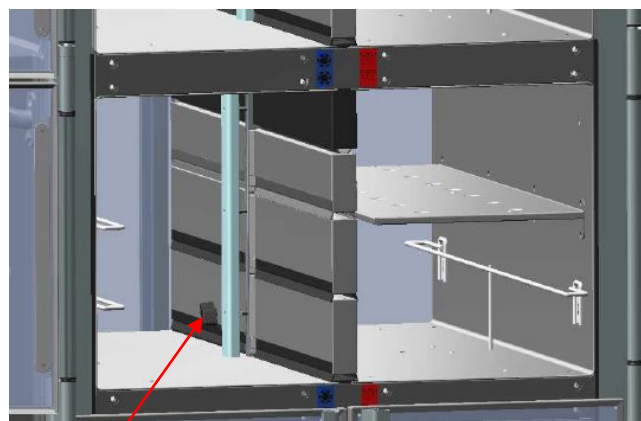

Figure 2
- To remove each single divider, unscrew completely the hand grip shown in Figure 2 (below), so that the aluminum part can be taken off. The divider can be cleaned either in a dishwasher or by hand.